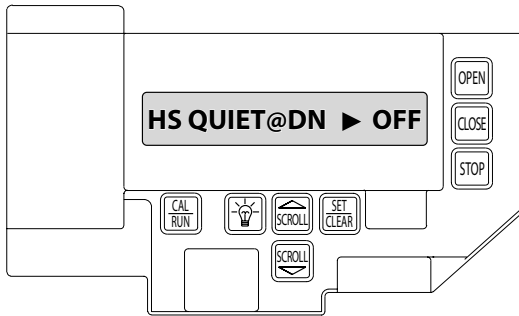

Fig. 17
- 1) Press SET/CLEAR to toggle between ON or OFF. Fig. 17